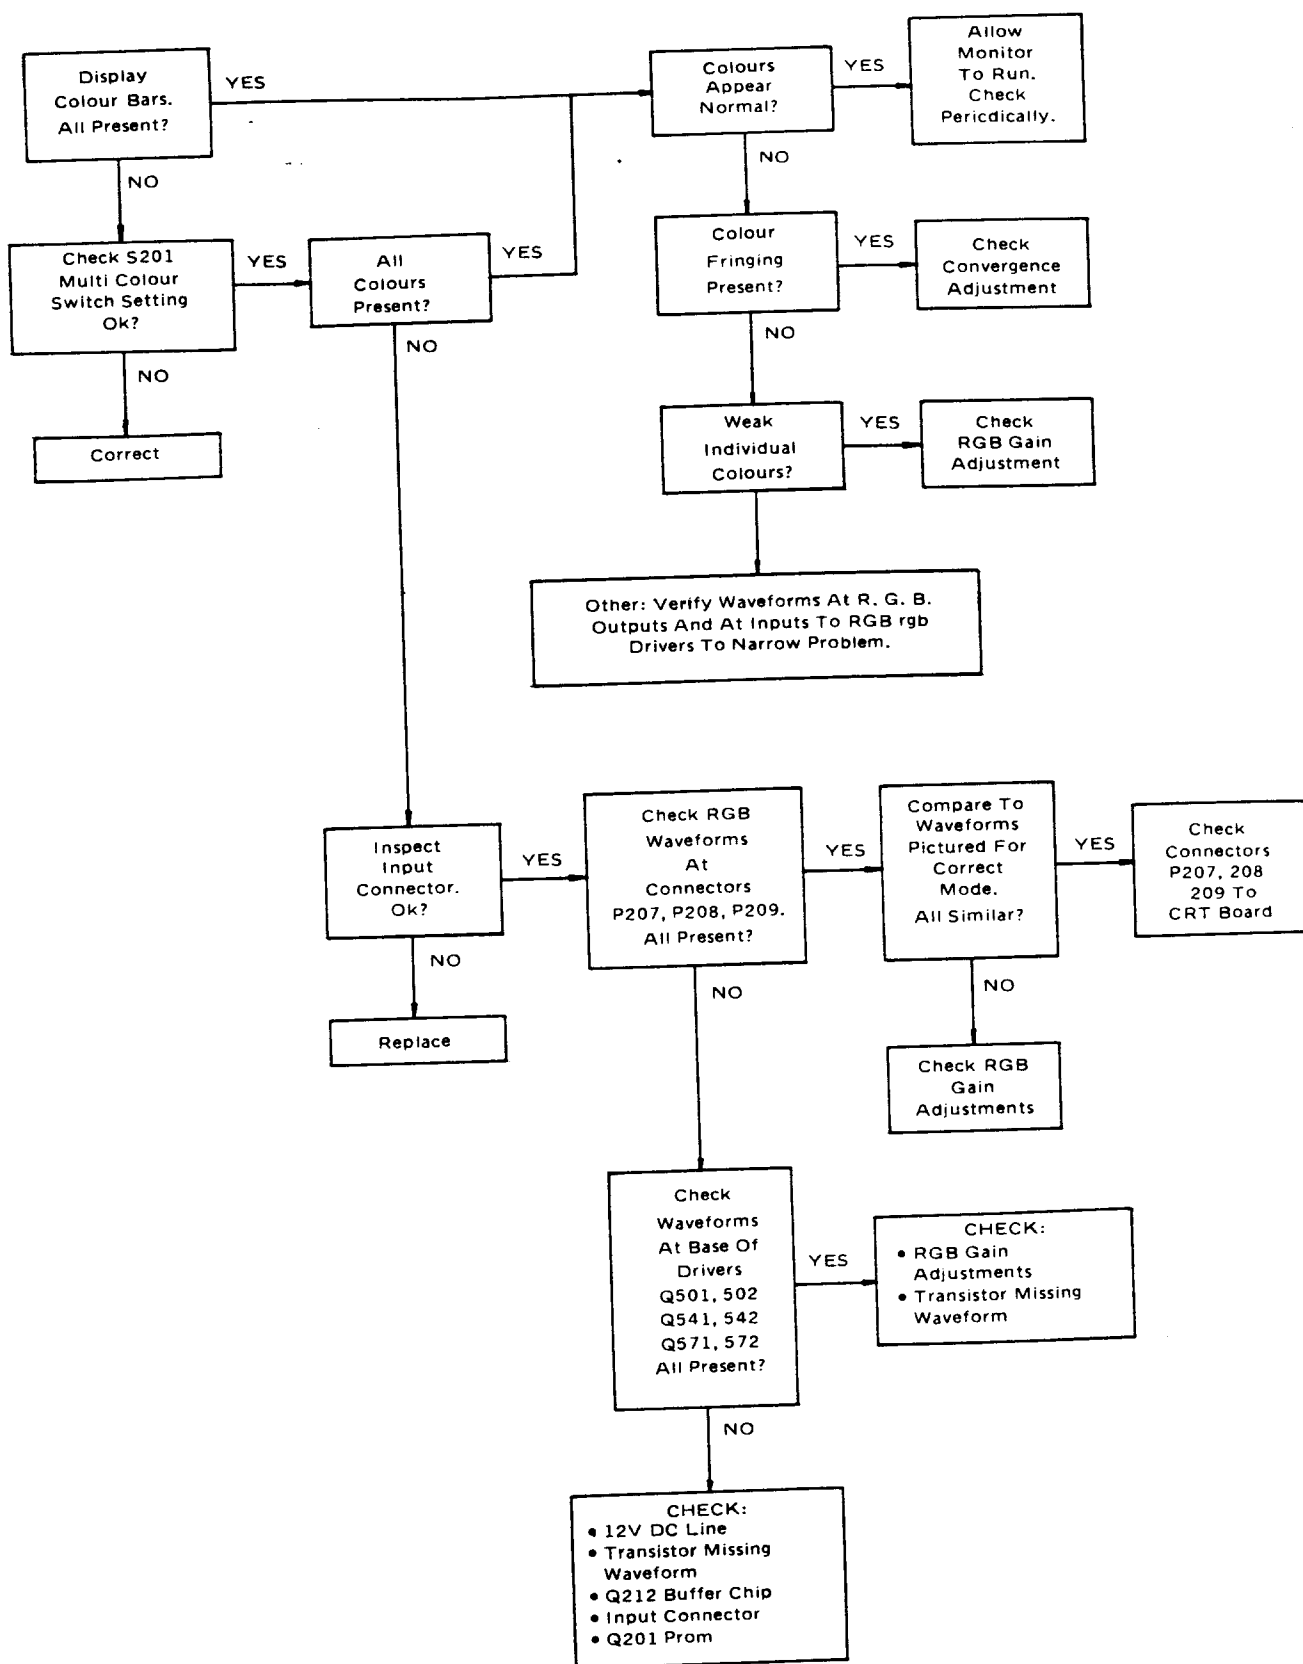

Fig 5-4 Video Board Troubleshooting Chart
- Video Board Troubleshooting Chart (Fig 5-4)